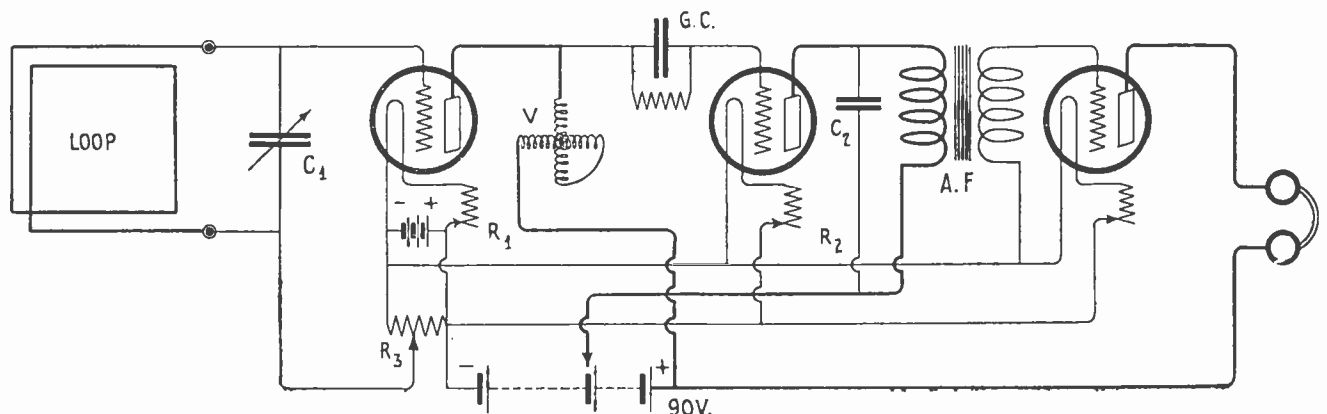

FIG. 1
**W**E APPEND the diagram which our correspondent desires, in Figure 1. It is suggested that the instruments be mounted in the left to right order indicated in the diagram, and on a panel not shorter than twelve inches.